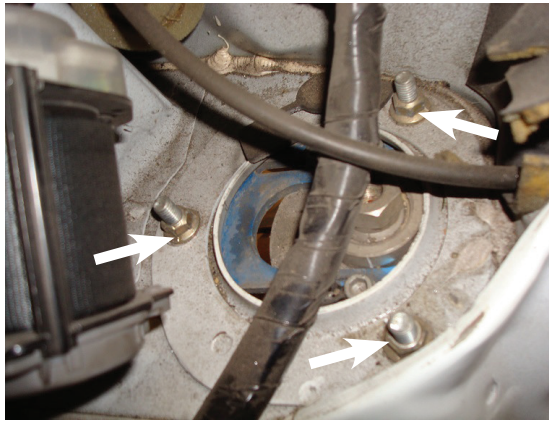

fig. 12
3. Unthread the three upper mount nuts within the cabin compartment and remove the strut from the vehicle (fig. 12).